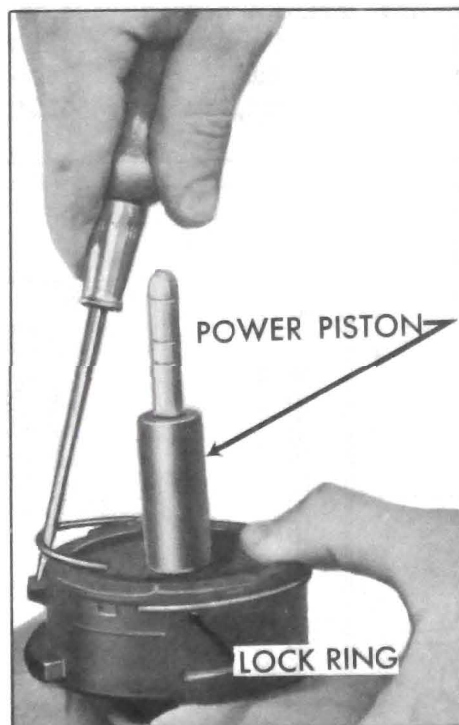

Figure 9-32—Installing Power Piston Lock Ring
22. There is a lug on the power piston which has a raised divider in the center. One end of the lock ring goes under the lug and on one side of the divider. See Figure 9-32.